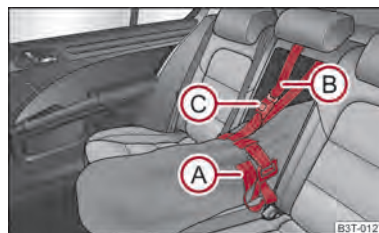

Fig. 104 Securing the through-loading bag
- Tighten the strap (A) on the free end around the skis in front of the bindings ⇒ fig. 104.
- Guide the securing strap (B) through the opening in the seat backrest around the upper part of the seat backrest.
- Insert the securing strap (B) into the lock (C) until it is heard to lock in place.